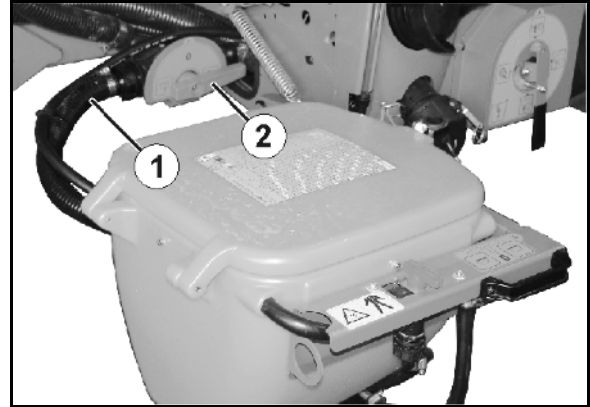

Fig. 141
8. Detach the hose (Fig. 141/1) from the switch tap **F**.
Swivel the switch tap **F** (Fig. 141/2) to position